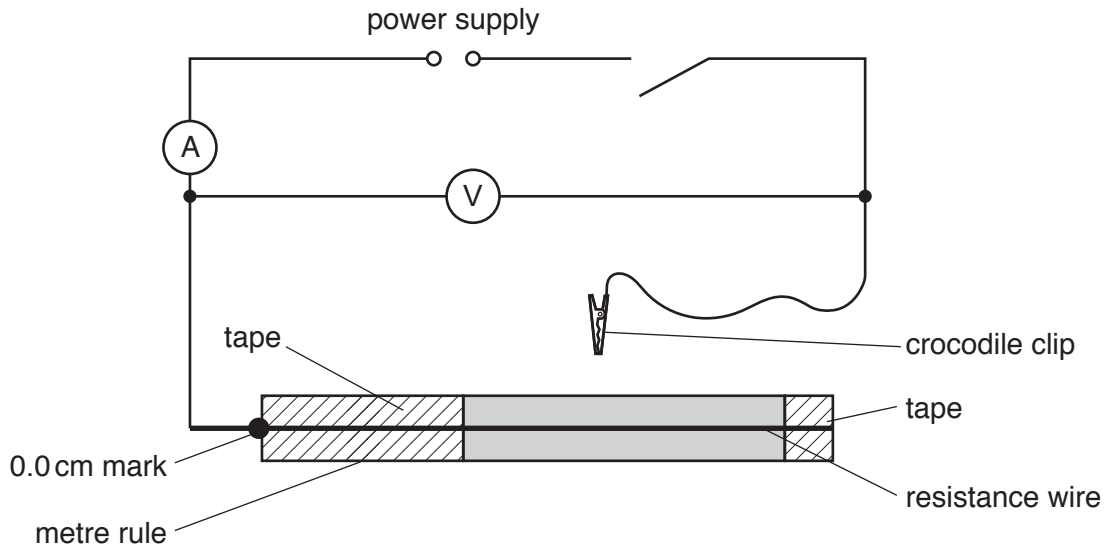

Fig. 3.1
- (vi) Sufficient connecting leads to set up the circuit shown in Fig. 3.1.
2. The circuit is to be set up for candidates as shown in Fig. 3.1, with the crocodile clip not connected to the wire.
Ensure that the circuit is connected as shown in Fig. 3.1. Check that the circuit is working. Disconnect the crocodile clip from the resistance wire and ensure that the circuit is switched off.